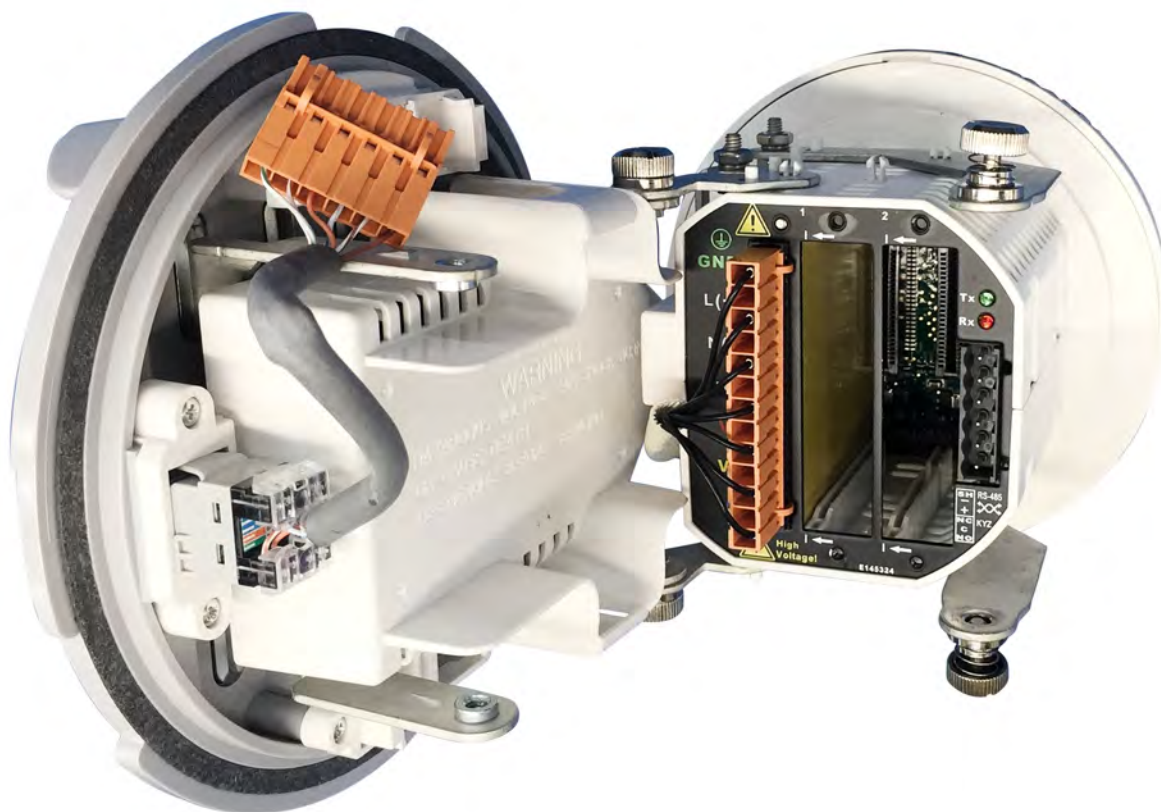

Figure 8.14: Meter Back Showing Card Location
1. Place the meter on a clean flat surface as shown in Fig. 8.14. Remove the 6 pin RS485/KYZ port connector on the right side of the meter's rear panel.